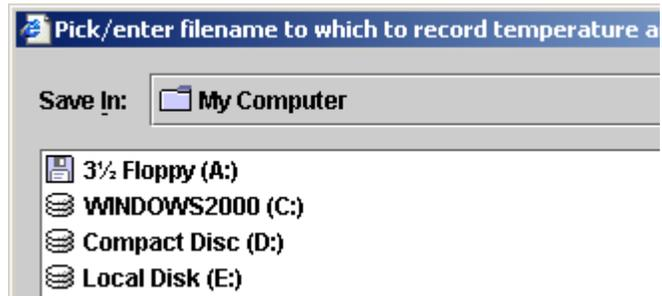

FIG. 35
**Record Temperature and Cycles** - records temperature and cycle information once per minute. A file is opened and data recorded. See FIG. 35.